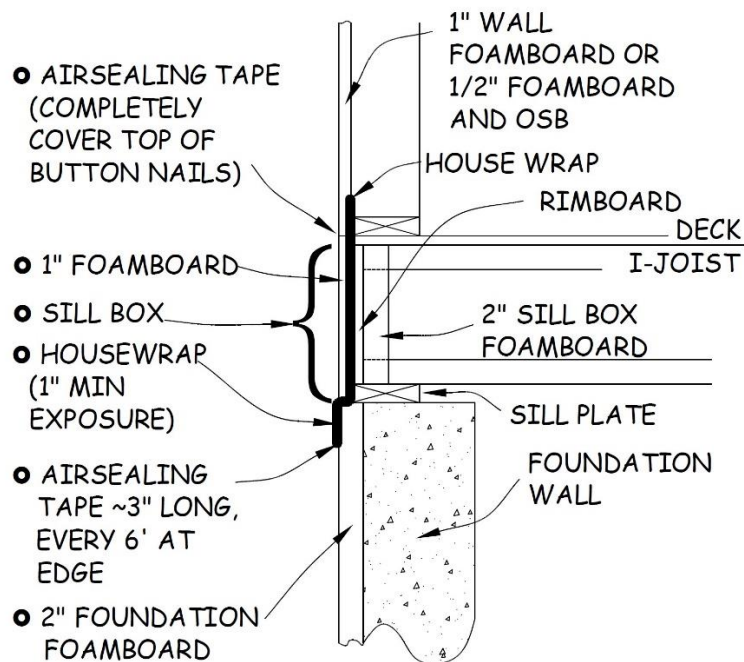

Figure 5-3. House Wrap and Foamboard Seams.
1. Measure and cut 1" foamboard to fit on the exterior of the sill box, **tightly** between the bottom of the wall foamboard and the foundation foamboard. Do the same below any OSB/½" foamboard wall panels. Install the foamboard with 2" button nails about 8" apart and 2" away from the top and bottom seams of the foamboard. Make sure the house wrap is **behind** this foamboard, leaving any extra wrap protruding from the seam between the bottom of the sill box foamboard and the top of the foundation foamboard (see Figure 5-3).
CAUTION: House wrap must extend at least 1" over the surface of the 2" foundation foamboard (see Figure 5-3). If it does not, see the Construction Supervisor.
- b. Continue taping other seams with air sealing tape **except for** the seam between the rim board foamboard and the foundation foamboard. **Do not tape the seam where the house wrap emerges from below the sill box foamboard.** Instead, tape the bottom of the house wrap to the foundation foamboard every 6' with a 3" piece of air sealing tape just to hold it down (see Figure 5-3).